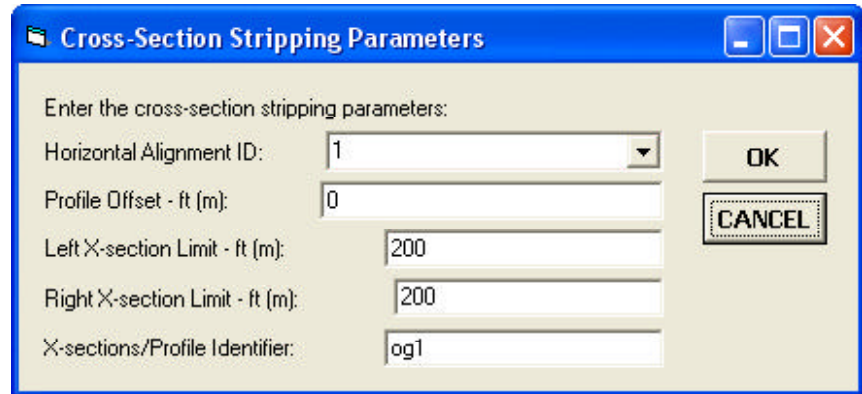

Figure 3
- 3 Scroll down in the {Cross-Section/Profile Commands} menu combo box, and **select** the [Sections from Contours] menu command. If the prerequisites, as outlined above, for using this command are not met, an appropriate error message will appear. If the requisites are satisfied, the multi-input dialog box of Figure 3 will be displayed.
Thus having: (a) activated the layer in the TOC, (b) introduced the proper horizontal alignment, and (c) activated the [Sections from Polygons] command, the multi-input dialog box of Figure 3 is displayed. From this point on, the operation of the command is the same as that of the [Sections from Contours] command, described previously.
Thus having: (a) activated the layer in the TOC, (b) introduced the proper horizontal alignment, and (c) activated the [Sections from TIN] command, the multi-input dialog box of Figure 3 is displayed. From this point on, the operation of the command is the same as that of the [Sections from Contours] command, described previously.